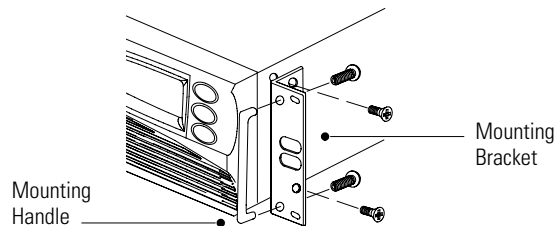

Figure 5. Installing the Mounting Handles and Brackets
2. Attach the supplied mounting handles to the mounting brackets with the supplied screws (see Figure 5).
3. Align the mounting brackets with the screw holes on the sides of the UPS and secure with the supplied screws (see Figure 5).